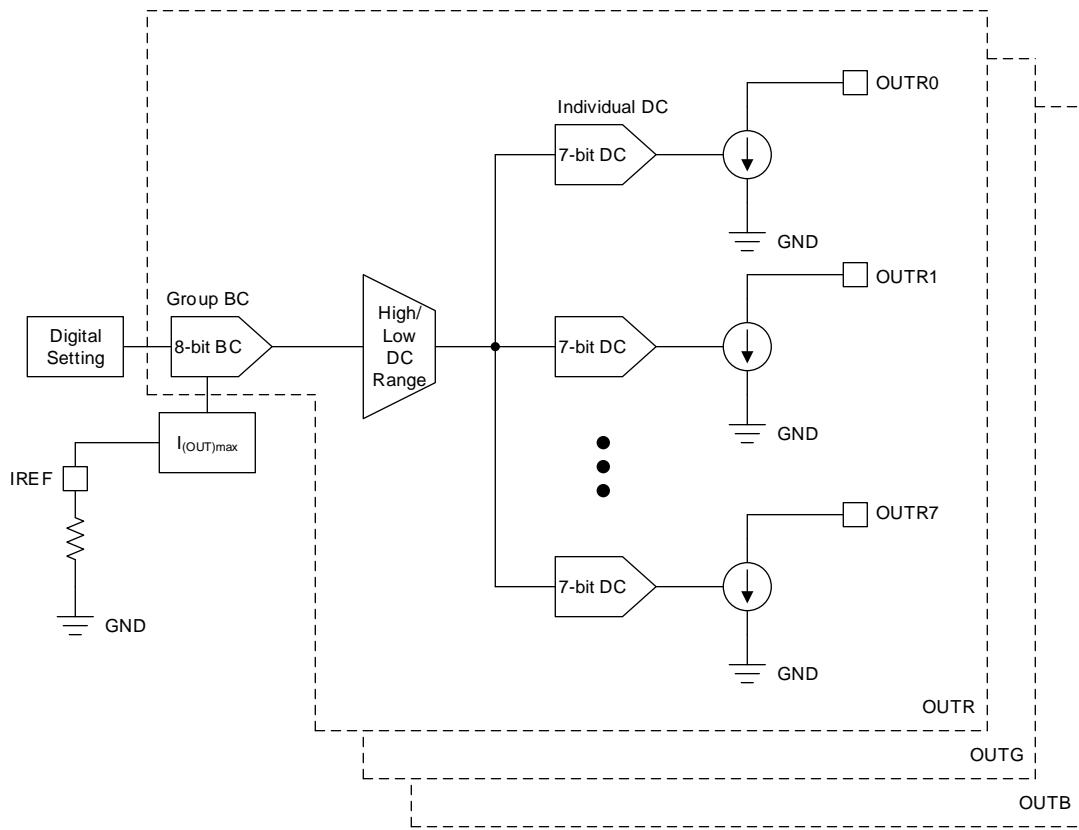

Figure 21. Brightness Control and Dot Correction Block Diagram
The TLC6C5724-Q1 device implements an 8-bit group brightness control (BC) and 7-bit individual dot correction (DC) to calibrate the output current. The 24 output channels are divided into three groups: OUTRn, OUTGn, and OUTBn. Each group contains 8 output channels. There are two configurable ranges for the DC value of each group. One is the low DC range with output current from 0 to 66.7% $I_{(OUT)max}$. The other is the high DC range with output current from 33.3% $I_{(OUT)max}$ to 100% $I_{(OUT)max}$. The IREF resistor, BC, DC, and DC range together determine the channel output current, as shown in Figure 21. Equation 2 and Equation 3 are the detailed output current calculation formulas.